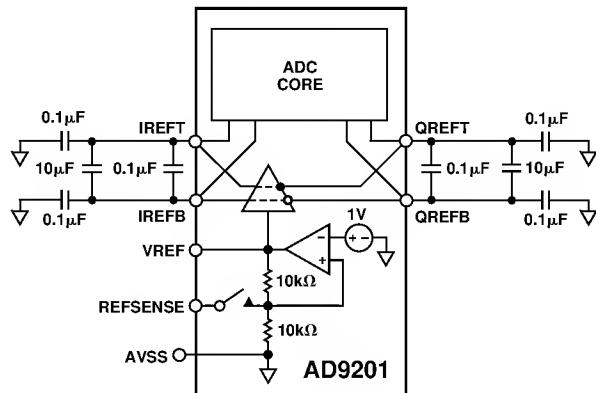

Figure 26. Reference Buffer Equivalent Circuit and External Decoupling Recommendation
The reference and buffer circuitry on the AD9201 is configured for maximum convenience and flexibility. An illustration of the equivalent reference circuit is show in Figure 26. The user can select from five different reference modes through appropriate pin-strapping (see Table I below). These pin strapping options cause the internal circuitry to reconfigure itself for the appropriate operating mode.
**Reference Buffer**—The reference buffer structure takes the voltage on the VREF pin and level-shifts and buffers it for use by various sub-blocks within the two A/D converters. The two converters share the same reference buffer amplifier to maintain the best possible gain match between the two converters. In the interests of minimizing high frequency crosstalk, the buffered references for the two converters are separately decoupled on the IREFB, IREFT, QREFB and QREFT pins, as illustrated in Figure 26.
For best results in both noise suppression and robustness against crosstalk, the 4 capacitor buffer decoupling arrangement shown in Figure 26 is recommended. This decoupling should feature chip capacitors located close to the converter IC. The capacitors are connected to either IREFT/IREFB or QREFT/QREFB. A connection to both sides is not required.